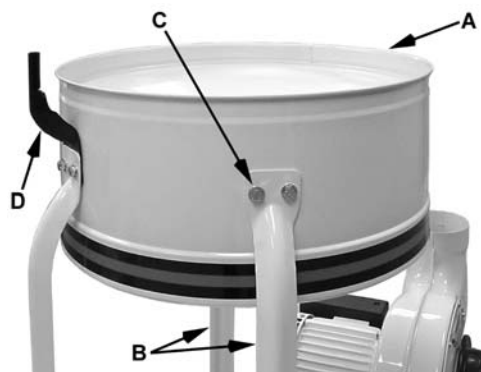
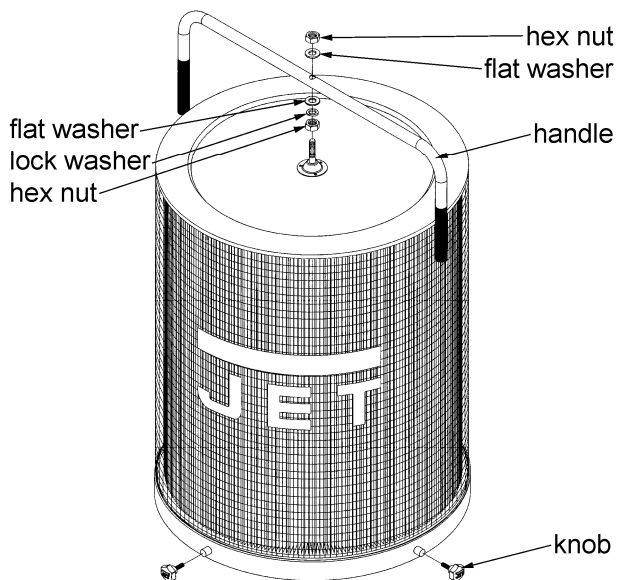

Figure 5
Figure 10
6. Install the *housing* (A, Fig. 5) to two *support legs* (B, Fig. 5) using four M8 x 16 hex cap bolts, eight M8 flat washers, and four M8 hex nuts (C, Fig. 5). *Be sure hose opening faces fan housing.*
Note: For models DC-1200VX-BK1 or DC-1200VX-BK3 only – Before attaching third support bracket, place the *hanger bracket* (D, Fig.5) between the support bracket and the housing.
1. Mount the handle onto the canister filter with two M10 hex nuts, two M10 flat washers, and a M10 lock washer (Figure 10).
2. Mount the canister filter on top of the *collector housing* (A, Fig. 5) and tighten the knobs on the *canister filter* (Figure 10).